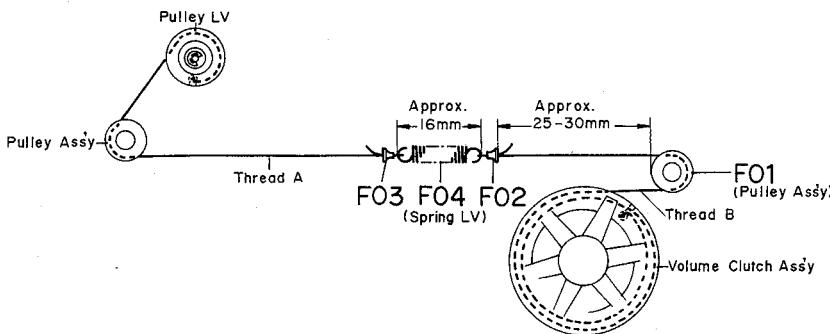
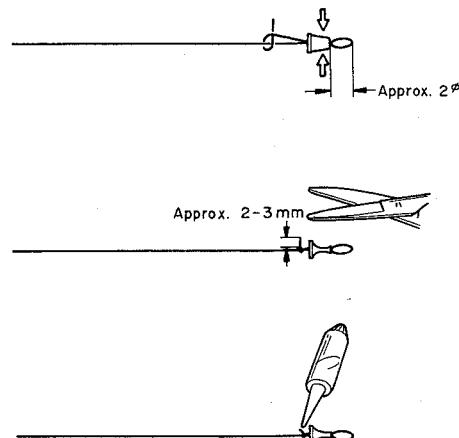

Fig. 5.2.11
Fig. 5.2.12
(10) Refer to Figs. 5.2.11 and 5.2.12. Remove scotch tape which has been temporarily attached to Volume Clutch for fixing Thread B. Pass Thread B round Pulley F01. Then by rounding off with pliers, fix the Thread Guide F02 at the end of the thread so that the end of the thread comes 25 – 30 mm from the Pulley F01. Tie the thread, cut the end 2 – 3 mm from the knot, and bond the knot with AVDEL BOND #C2 as shown in Fig. 5.2.12. Mount Spring LV F04 to Thread B. Remove the tape which was used to fix Thread A, then mount Thread A to Spring LV F04 through Thread Guide F03. By rounding off with pliers, fix Thread Guide F03 so that the spring elongates to about 16 mm as shown in Fig. 5.2.11. Tie the thread, cut the end 2 – 3 mm from the knot, and bond the knot with AVDEL BOND #C2.
(11) Remove the temporarily fixing tape which was used to fix the Pulley RV, then connect the connector